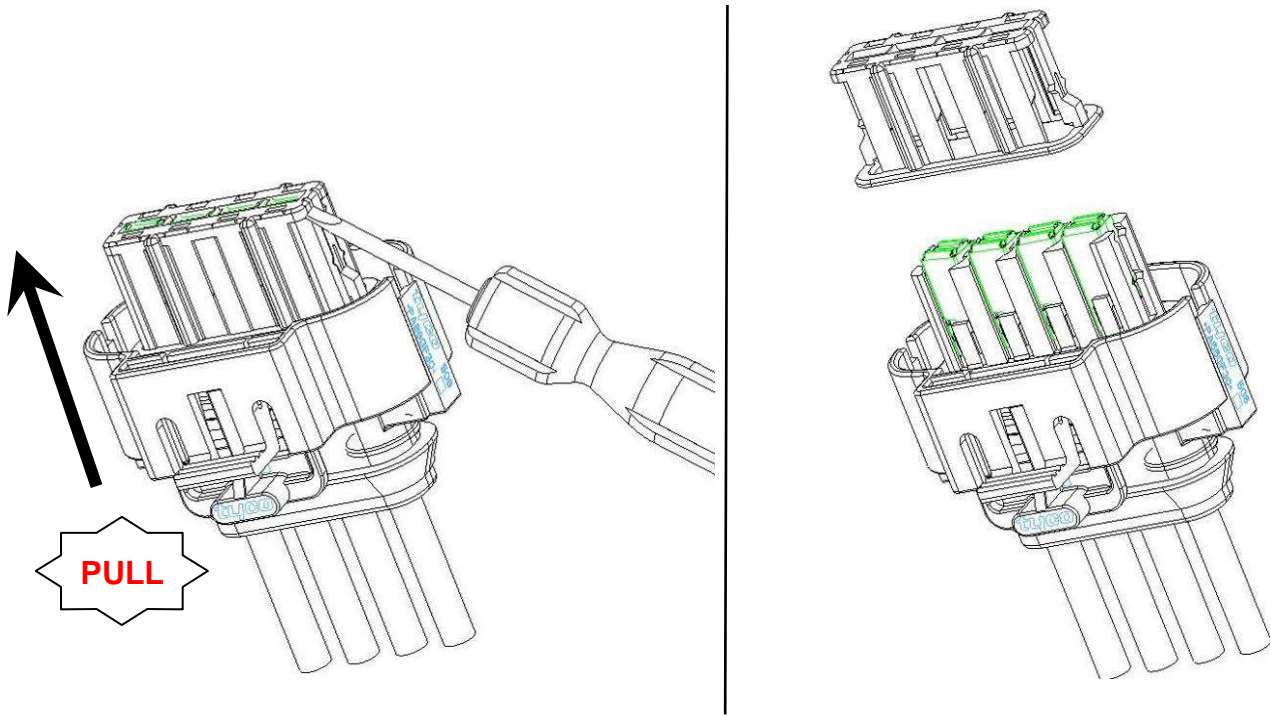

FIGURE 6 - 1480968
- a) Remove completely the Secondary Lock in the direction shown by the arrows; see Figure 6 below.